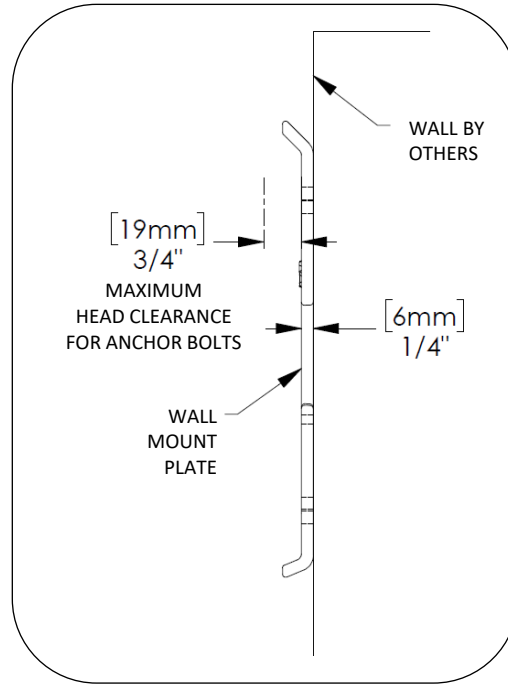

Fig. 2 - Wall mount plate side view
4. Drill holes according to anchor manufacturer's recommendations. See Fig. 2 for anchor head clearance.